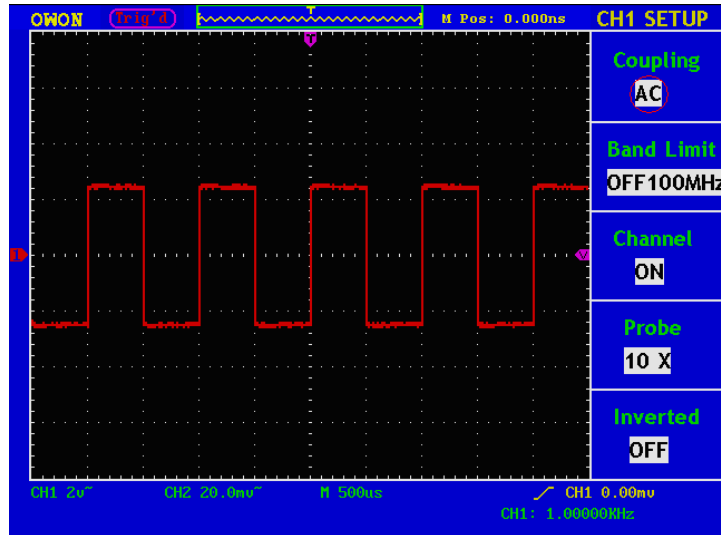
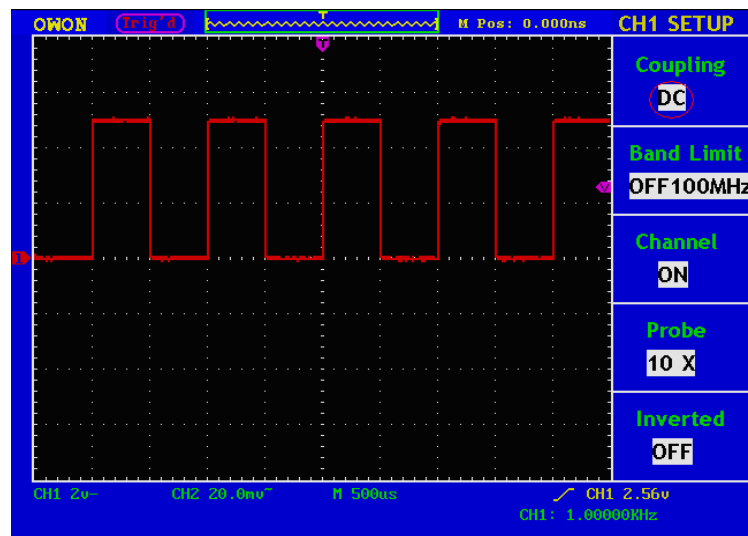

Fig. 5-2 AC Coupling Oscillogram
Fig. 5-3 DC Coupling Oscillogram
from input signal. See Fig.5-2.
- Press **F1** again to set "DC" mode, both AC and DC components get passed. See Fig.5-3.
The wave forms are shown as Fig.5-2 and Fig.5-3.